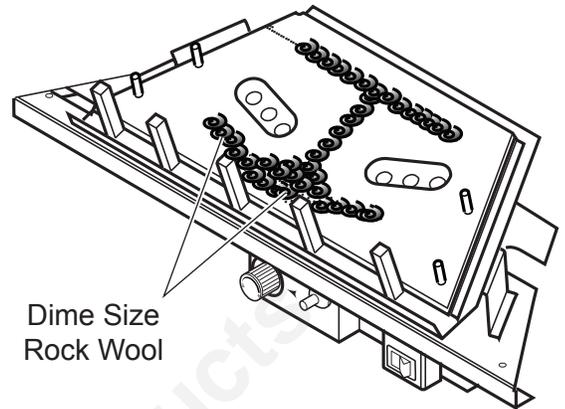

Figure 40 - Rockwool Installation (24VFSC and 32VFSC)
6. Turn the gas control knob counterclockwise  to the IGN position. See *Figure 40*. Push in and hold control knob for 5 seconds.